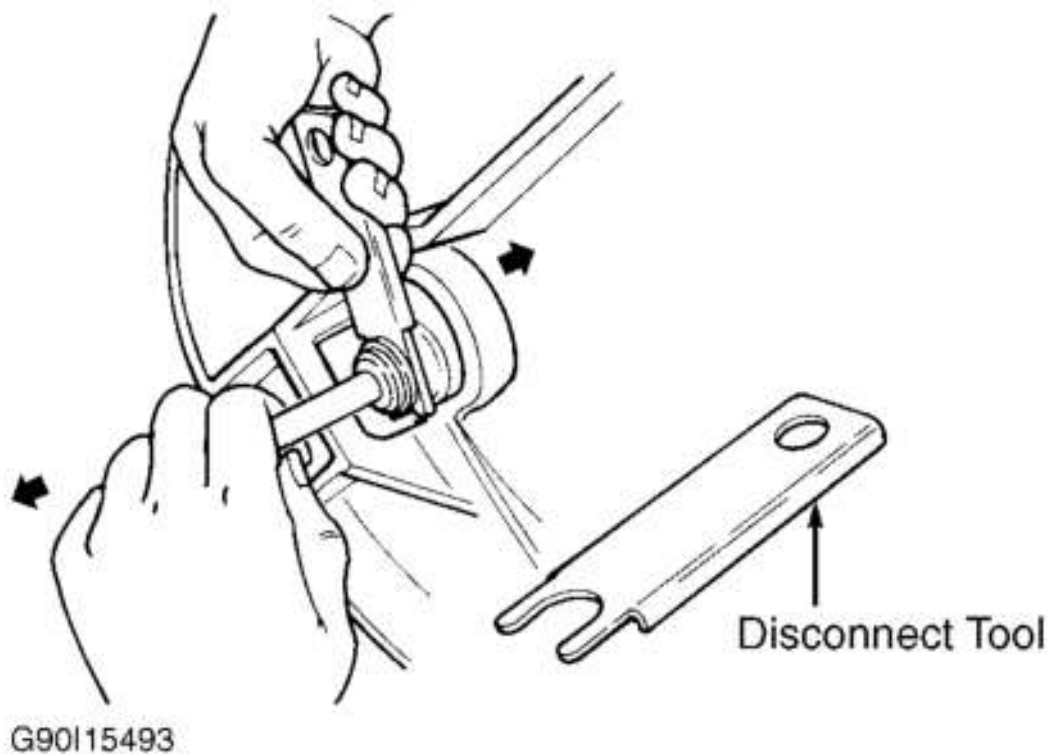

Fig. 5: Removing Clutch Hydraulic Line (Internally Mounted Slave Cylinder)
1. Using Disconnect Tool (T88T-70522-A), disconnect coupling at transmission by lightly tugging on clutch tube while sliding White plastic sleeve toward slave cylinder. See **Fig. 5** . Clean area around reservoir cap. Fill reservoir with DOT 3 brake fluid. Using hand pressure, apply 10-15 pounds to clutch pedal. If pedal is hard, go to step 3). If pedal is spongy, go to next step.
4. Using Disconnect Tool (T88T-70522-A), disconnect clutch slave cylinder hydraulic line at transmission case. See **Fig. 5** . Cap end of line to prevent fluid leakage and contamination.
1. Disconnect negative battery cable. Disconnect clutch master cylinder push rod. Raise vehicle and remove starter. Disconnect clutch slave cylinder hydraulic line by pressing White retainer bushing with Disconnect Tool (T88T-70522-A) while pulling on line. See **Fig. 5**.
2. On Aerostar, slide clutch master cylinder reservoir out of relay bracket. On Explorer and Ranger, remove clutch master cylinder reservoir screw from cowl access cover. Disconnect clutch slave cylinder hydraulic line by pressing White retainer bushing with Disconnect Tool (T88T-70522-A) while pulling on line. See **Fig. 5** . Plug line to prevent leakage.